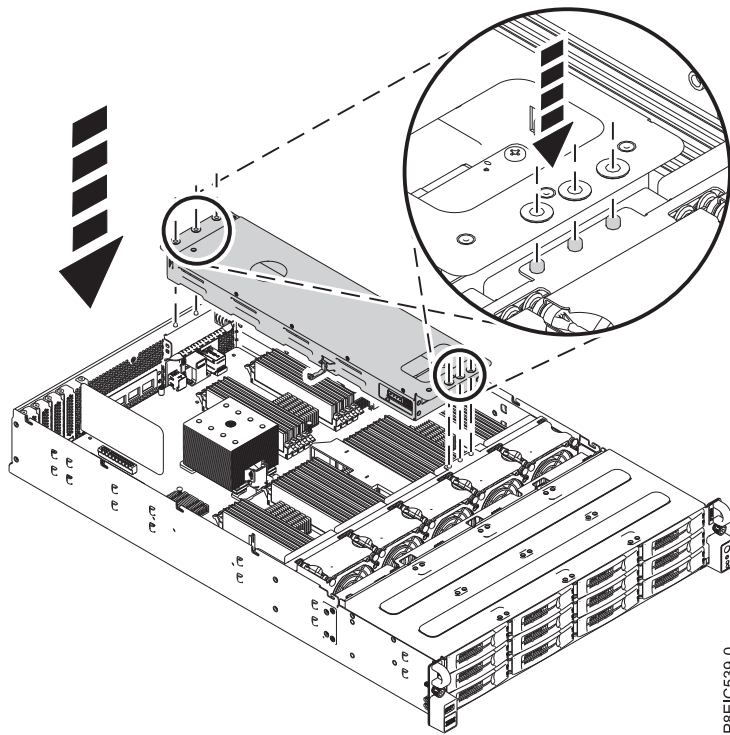

Figure 20. Installing rear drive tray assembly
2. Place the rear drive tray assembly into the system, by using the alignment pins. Three pins are located in the chassis for the front of the assembly, three pins are at the back, and two pins are on the side next to the power supplies, as shown in Figure 20.